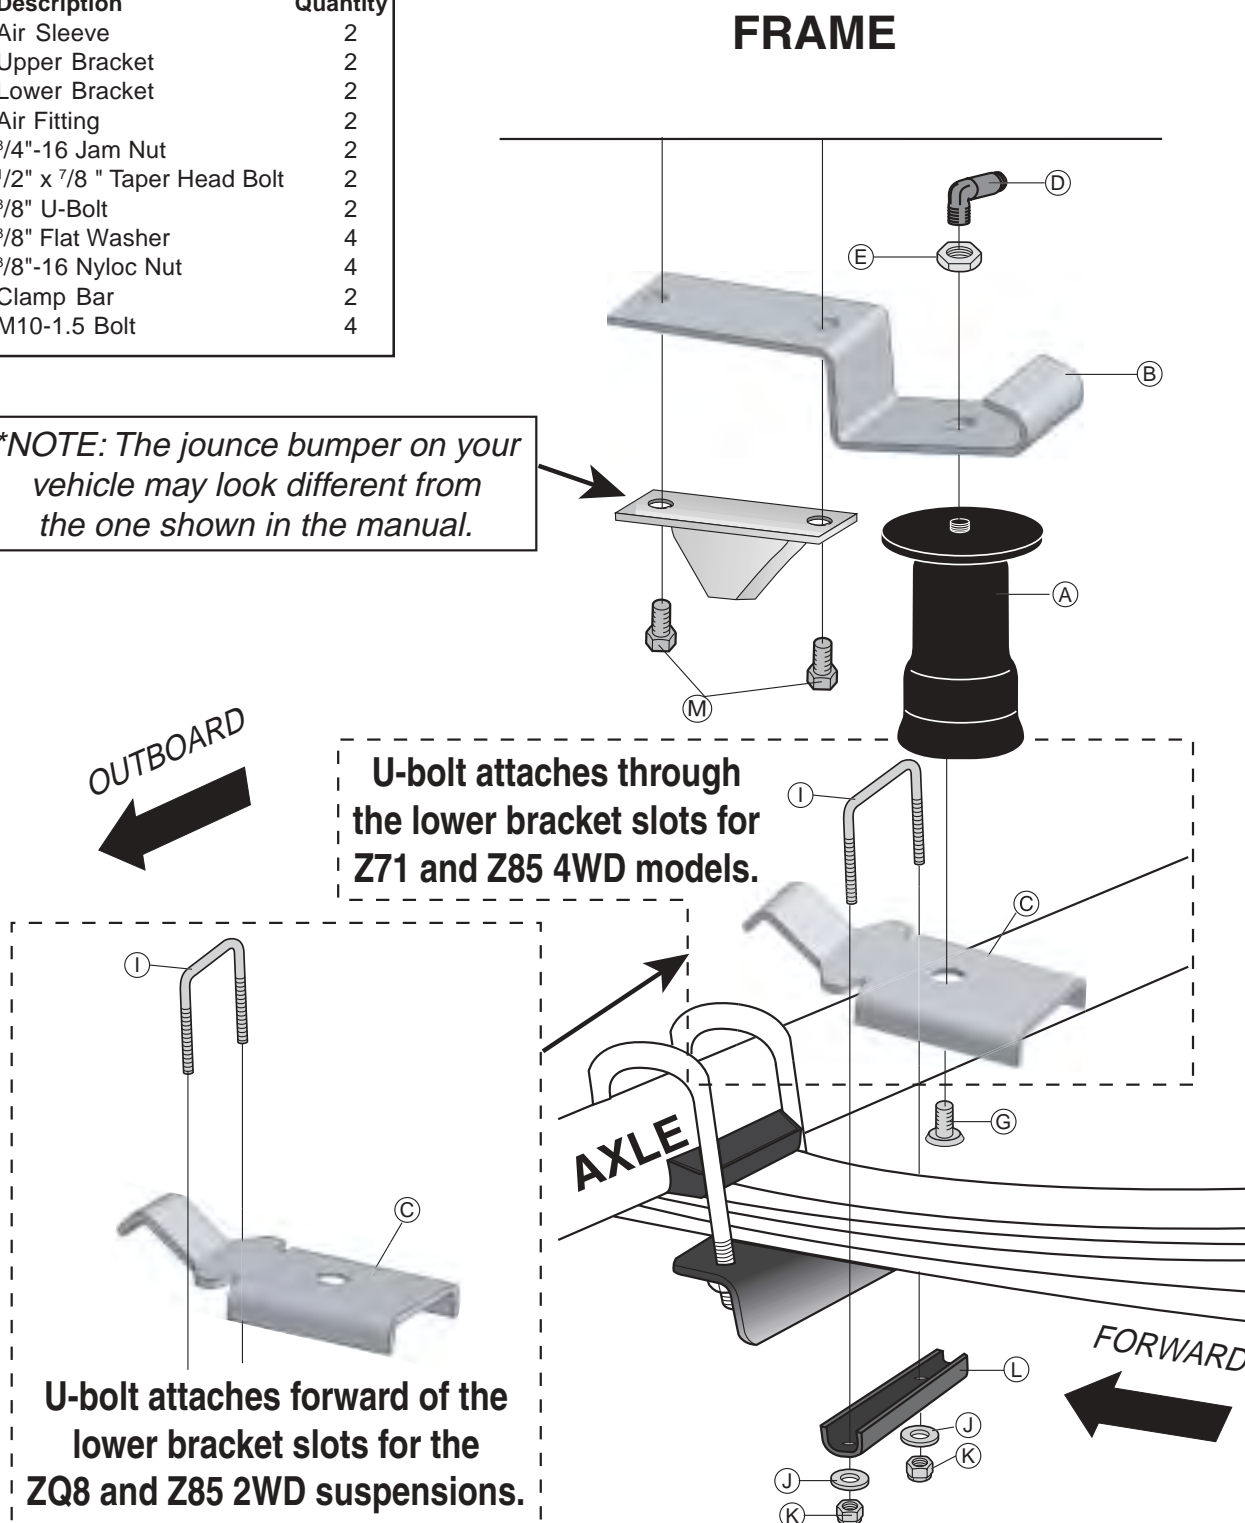

Figure 1
NOTE: Refer to Figure 1 for the instructions below.
2. Remove the jounce bumper and set it on the bracket. Attach the assembly to the frame using the supplied bolts. Adjust by pulling the slotted bracket towards you (Figure 1).